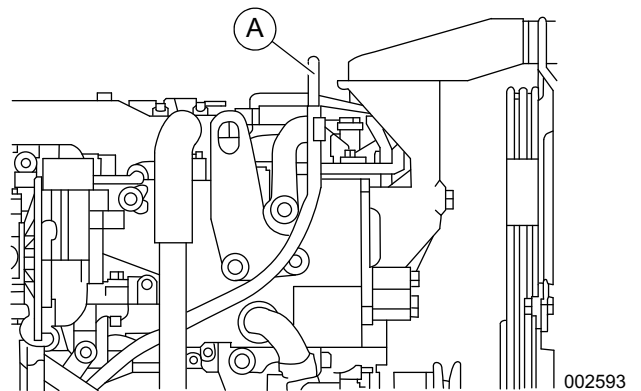

Figure 4-1. Oil Dipstick
1. See Figure 4-1. Remove oil dipstick (A) and wipe it dry with a clean, lint free cloth.